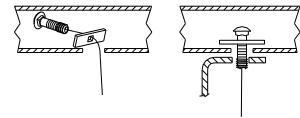

Figure 3.
- Feed the carriage bolt and spacer thru rearward slots on bottom of frame rails using the pull wires, as shown Figure 3. **Note:** May need to insert the carriage bolt in on an angle. Leave the pull wires in position to assist in locating bolt when the hitch is placed in position.